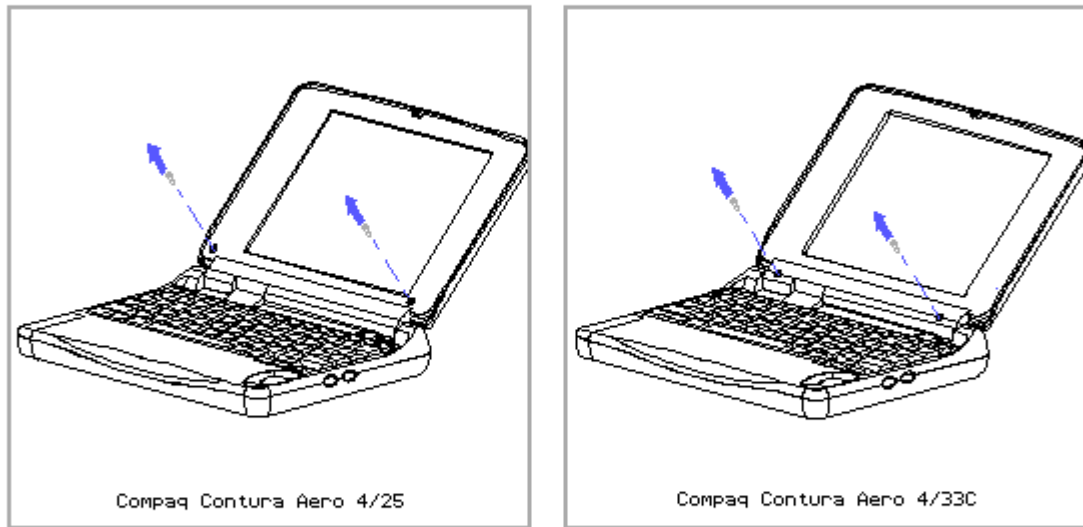

Figure 3-5. Removing Screws from the Display Assemblies
7. Remove the screw covers from the bottom right and left corners of the display panel assembly. Using a Phillips screwdriver, remove the two screws (Figure 3-5).
1. Remove the display bezel (Figures 3-5 and 3-6).
2. Remove the display bezel (Figures 3-5 and 3-6).